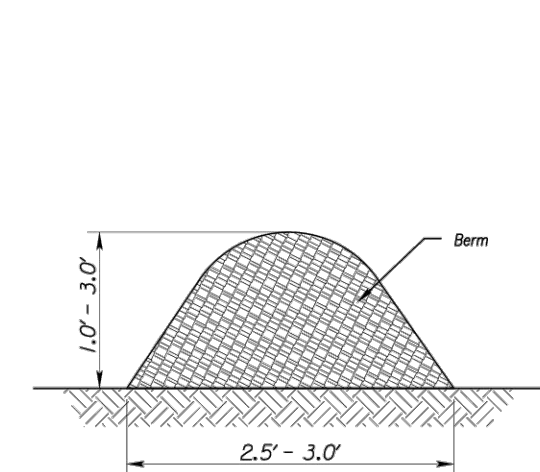
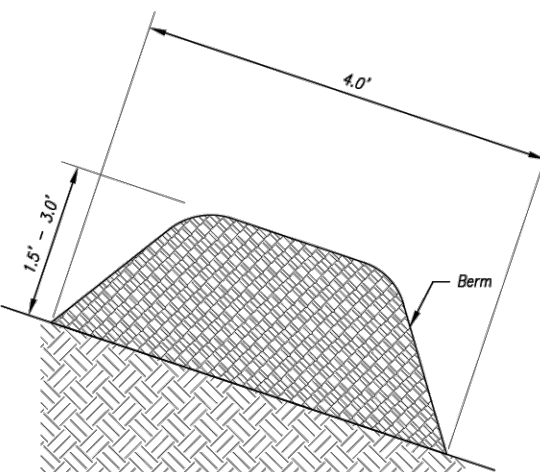

Figure 1
Figure 2
2. Parallel to the base of the slope, or around the perimeter of other affected areas, construct a 1 to 3 foot high by 2.5 to 3 foot wide berm (see Figure 1). For maximum water treatment ability or for steep slopes, construct a 1.5 to 2 foot high trapezoidal berm that is a minimum of 4 feet wide at the base (see Figure 2). In extreme conditions, or where specified by the engineer, a second berm shall be constructed at the top of the slope. Engineer will specify berm requirements.